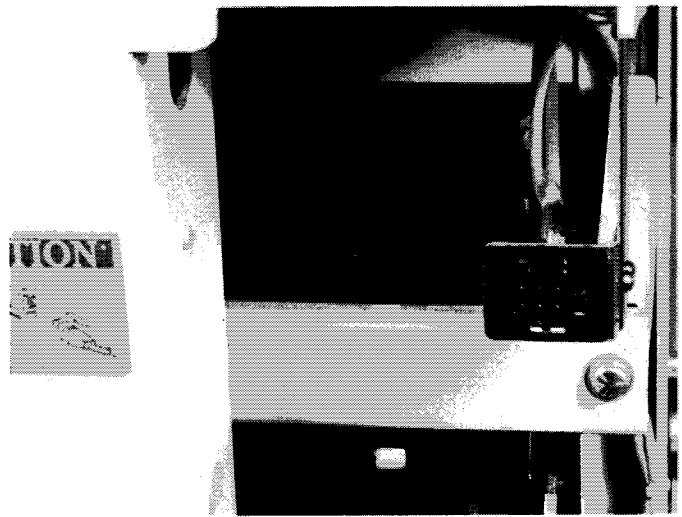
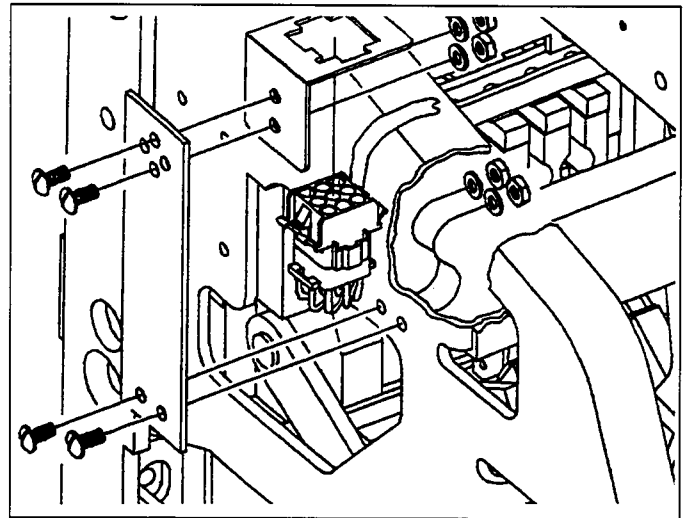

Fig. 3-19. Communications Harness Installation on a Type AKU-50 Breaker
Fig. 3-20. Mounting Pattern for Types AK-50, AK-100 Breakers
For AKU-50 breakers, the harness must be connected on the right side of the breaker as there is no room for it on the left side, see Fig. 3-19. Drill two (2) 0.228 diameter holes, using a #1 drill to install the harness on all type breakers. Figures 3-20 through 3-21 are representative examples of harness connections and routing directions. They are not meant to be all-inclusive.